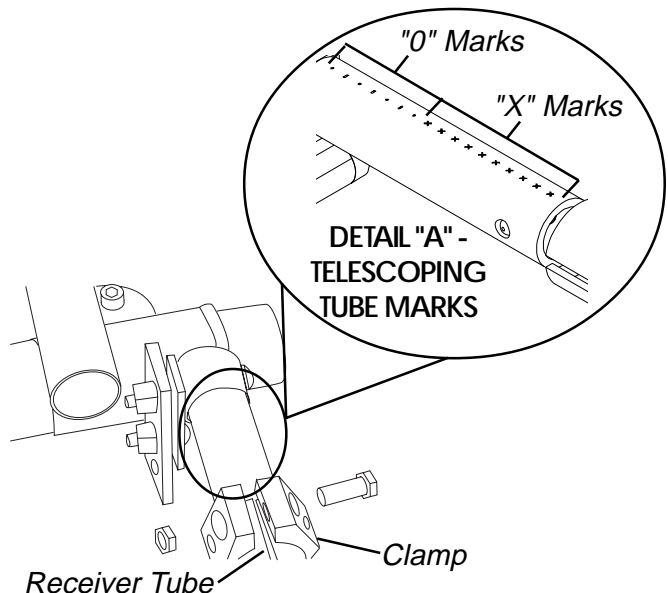

FIGURE 11 - ADJUSTING WHEELBASE LENGTH
ADJUSTING WHEELBASE LENGTH (FIGURE 11)
2. Perform one (1) of the following:
NOTE: Marks on the telescoping tubes have been provided to ensure the telescoping tubes are aligned with each other. The performance of the wheelchair will be affected if the two (2) telescoping tubes are not adjusted to the same position. Refer to FIGURE 11.